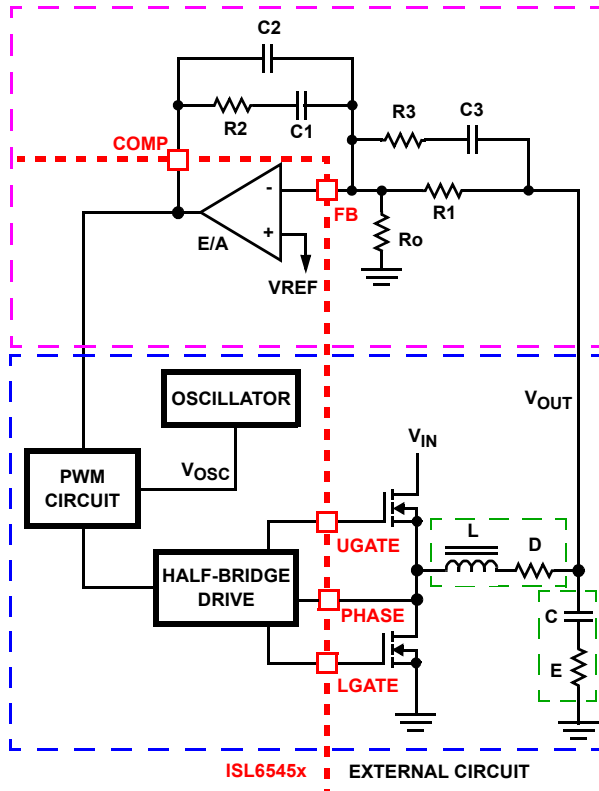

FIGURE 9. VOLTAGE-MODE BUCK CONVERTER COMPENSATION DESIGN
This section highlights the design consideration for a voltage-mode controller requiring external compensation. To address a broad range of applications, a type-3 feedback network is recommended, as shown in the top part of Figure 9.
Figure 9 also highlights the voltage-mode control loop for a synchronous-rectified buck converter, applicable to the ISL6545x circuit. The output voltage ( $V_{OUT}$ ) is regulated to the reference voltage,  $V_{REF}$ . The error amplifier output (COMP pin voltage) is compared with the oscillator (OSC) modified sawtooth wave to provide a pulse-width modulated wave with an amplitude of  $V_{IN}$  at the PHASE node. The PWM wave is smoothed by the output filter ( $L$  and  $C$ ). The output filter capacitor bank's equivalent series resistance is represented by the series resistor  $E$ .
The compensation network consists of the error amplifier (internal to the ISL6545x) and the external R1-R3, C1-C3 components. The goal of the compensation network is to provide a closed loop transfer function with high 0dB crossing frequency ( $F_0$ ; typically 0.1 to 0.3 of  $F_{SW}$ ) and adequate phase margin (better than 45°). Phase margin is the difference between the closed loop phase at  $F_{0dB}$  and 180°. The equations that follow relate the compensation network's poles, zeros and gain to the components (R1, R2, R3, C1, C2, and C3) in Figure 9. Use the following guidelines for locating the poles and zeros of the compensation network:
1. Select a value for R1 (1kΩ to 5kΩ, typically). Calculate value for R2 for desired converter bandwidth ( $F_0$ ). If setting the output voltage via an offset resistor connected to the FB pin, Ro in Figure 9, the design procedure can be followed as presented.